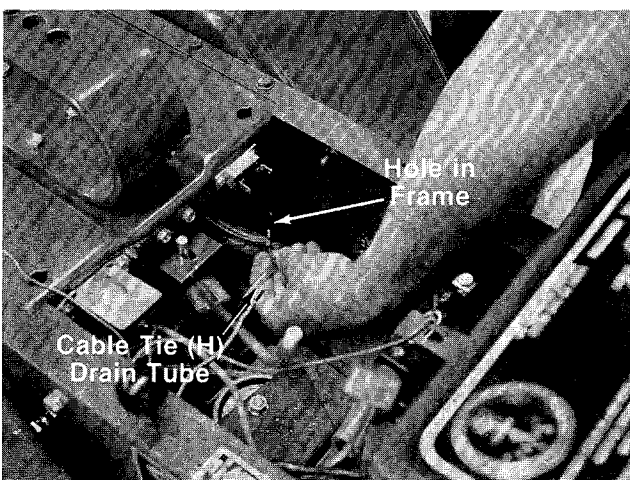

FIGURE 11.
9. Attach the battery drain tube to the manifold of the battery, on the left hand side. Push the locking end of cable tie (H) through the hole in the left frame as shown in figure 11. Route the battery drain tube back to the cable tie. Place end of cable tie through the slot so a loop is formed around the drain tube to secure it. Tighten cable tie and cut off excess end.